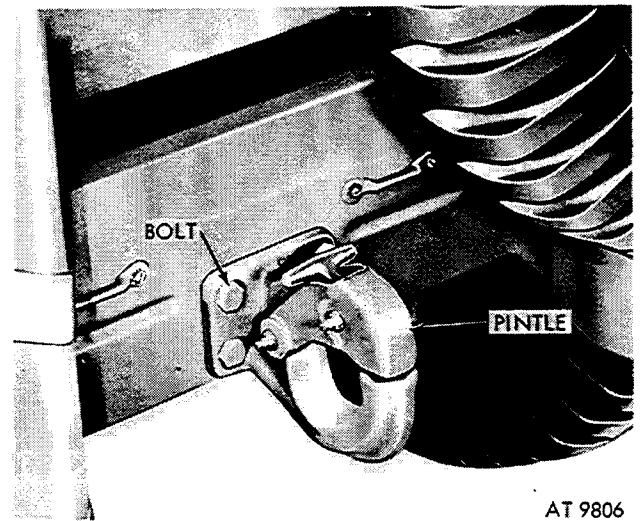

Figure 2-399. Remove towing pintle. (M151, M151A1, M151A1C, and M718 vehicles.)
**a. Removal.** Remove four hexagon head cap-screws, nuts, and washers from pintle assembly (fig. 2-399) and remove towing pintle from rear of vehicle.
**b. Installation.** Refer to figure 2-399 for M151, M151A1, M151A1C, and M718 Vehicles, to figure 2-400 for installation on M151A2, M825, and M718A1 vehicles. Torque bolts ( $\frac{1}{2}$ -20) securing towing pintle assembly to 65-100 lb-ft.